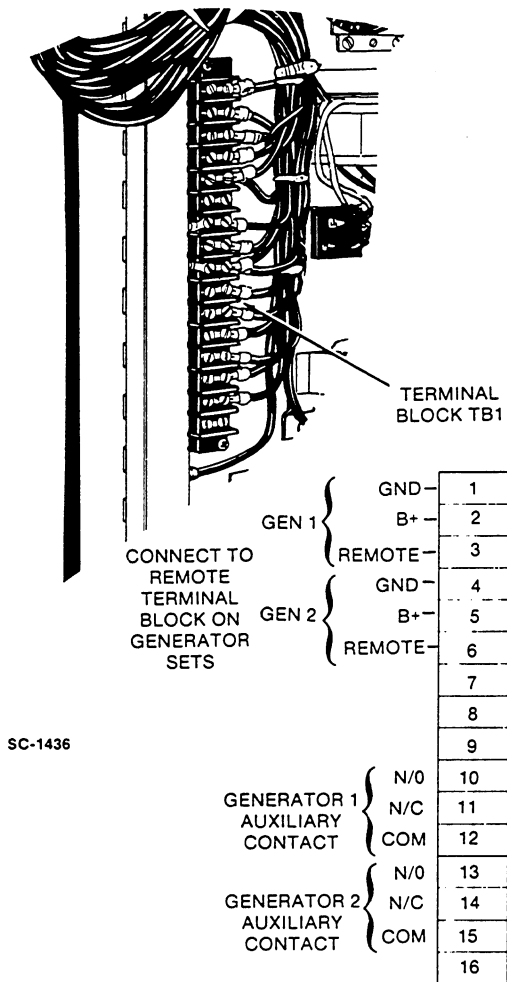

**FIGURE 5. TRANSFER SWITCH LOAD TERMINALS (SIDE VIEW)
- A. Remove switch covers, and load cover on front connect units. See Figure 5. On 600 through 1000 ampere transfer switches, the end assemblies on each end of the actuator rod must be removed to facilitate removal of the switch cover.
- B. Remove nuts and lockwashers from jumper strap at center of switch (leave bolts in place). See Figure 5.
- F. Torque screws and nuts to values shown in Figure 5.